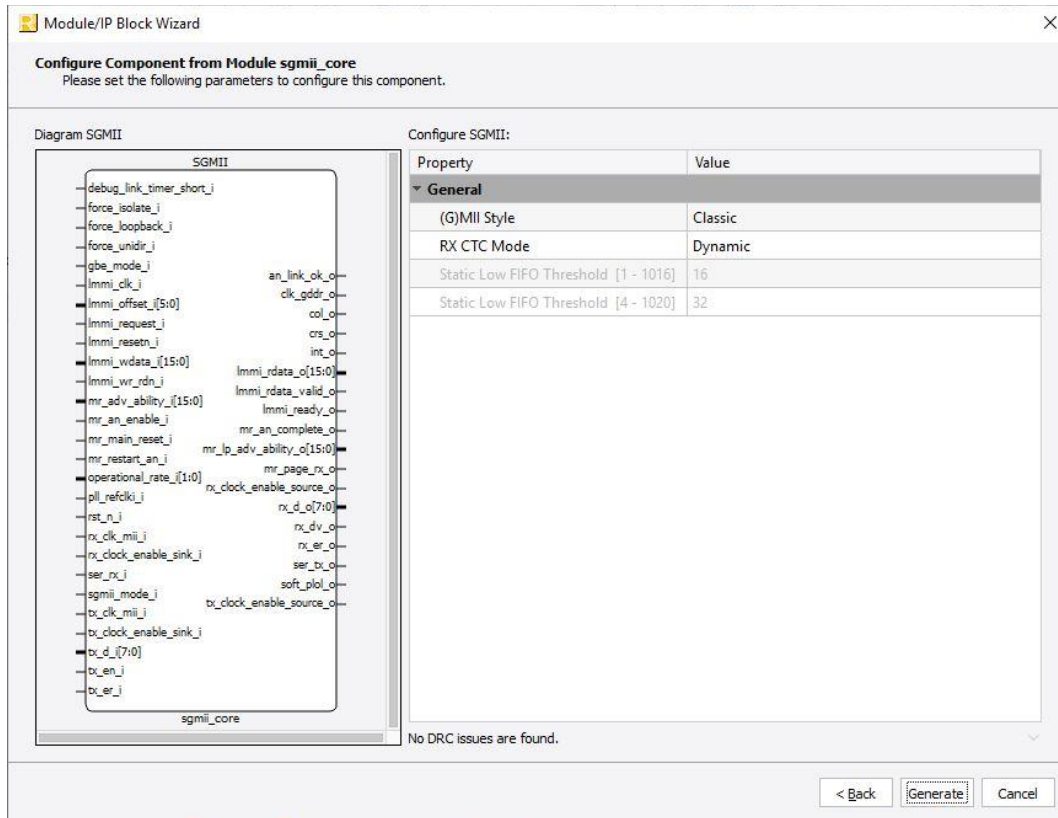

Figure 3.2. Configure User Interface of SGMII IP Core
3. In the module’s dialog box of the **Module/IP Block Wizard** window, customize the selected SGMII IP Core. As a sample configuration, see Figure 3-2. For configuration options, see the Attribute Summary section.